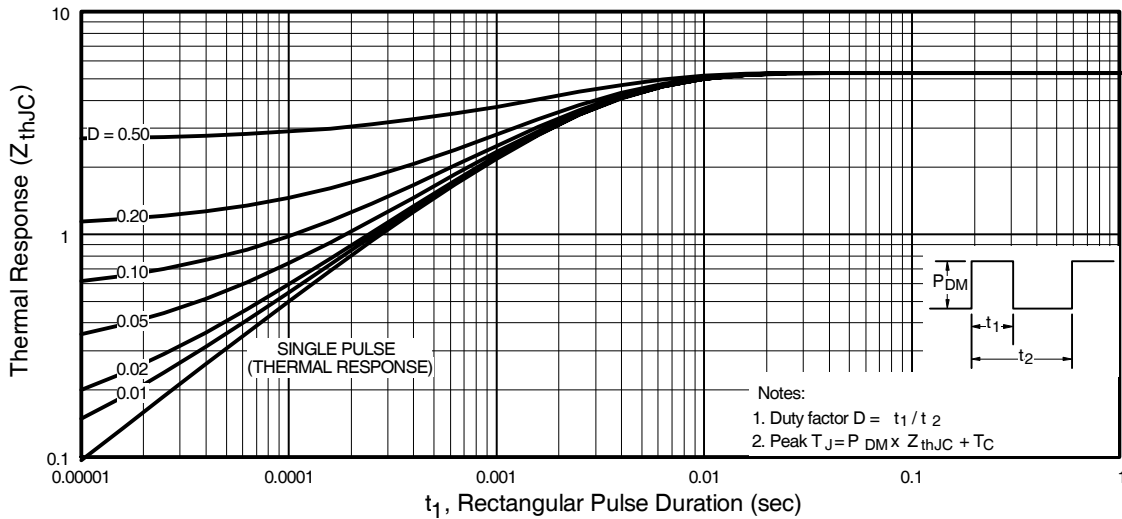

Fig 11. Maximum Effective Transient Thermal Impedance, Junction-to-Case
① Repetitive rating; pulse width limited by max. junction temperature. (See fig. 11)
② Starting $T_J = 25^\circ\text{C}$, $L = 1.96mH$